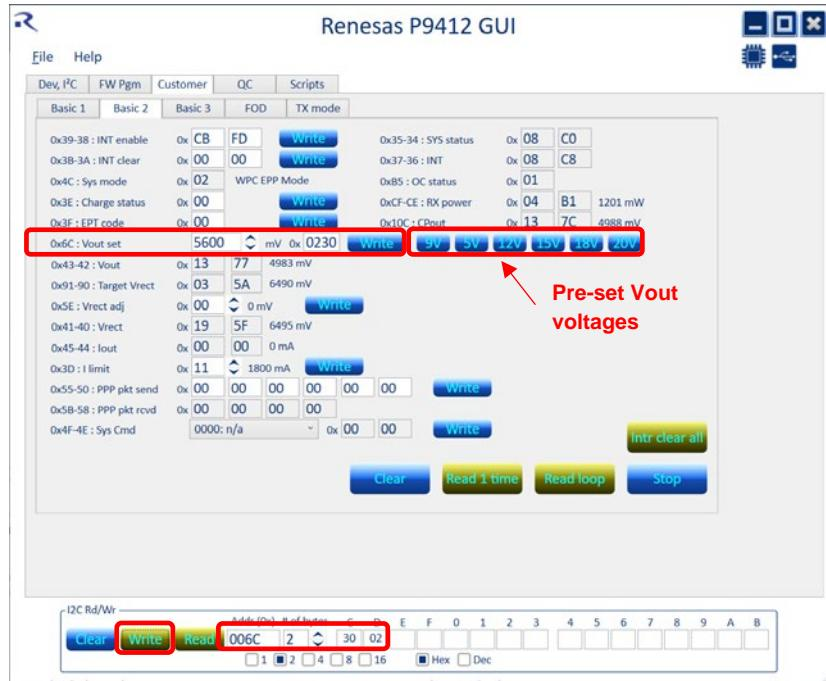

Figure 14. VOUT Adjustments Can be made in Three Ways
4. Reciprocally, register 0x6C (valid for FW37 and above) is used to set the value of VOUT, as shown in Figure 14. Any register can be read (or written assuming it is a writeable register) from the I2C reg Rd/Wr tool at any time. Address is the starting address and the number of bytes should be specified prior to clicking "Read" for read, or "Write" for write operations.